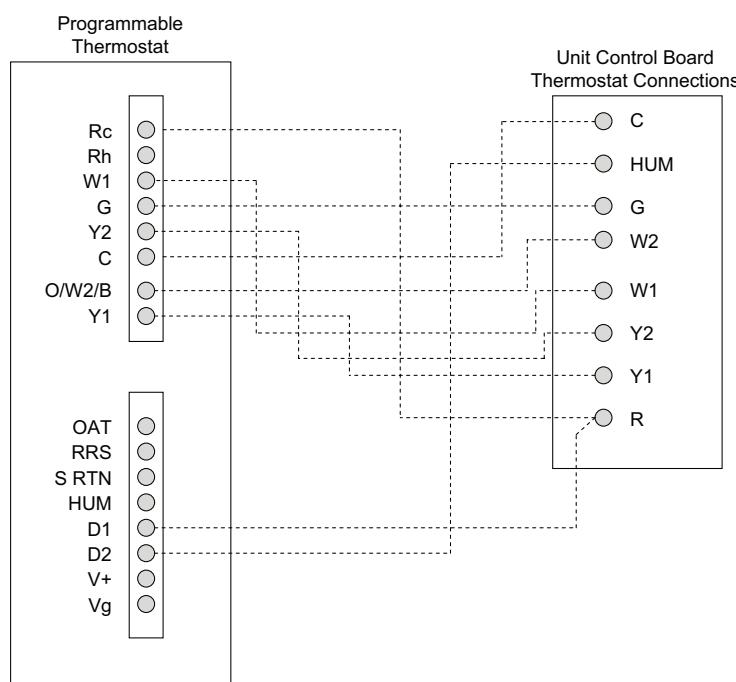

Fig. 46 — 48GC14 Unit with Humidi-MiZer Adaptive Dehumidification System with Edge® Pro Thermidistat Device**
5. The Thermidistat has dry contacts at terminals D1 and D2 for dehumidification operation (see Fig. 46). Connect D1 to the R terminal on the UCB. Connect D2 to the HUM terminal on the UCB. Refer to the installation instructions included with the Carrier Edge® Pro Thermidistat device for more information.